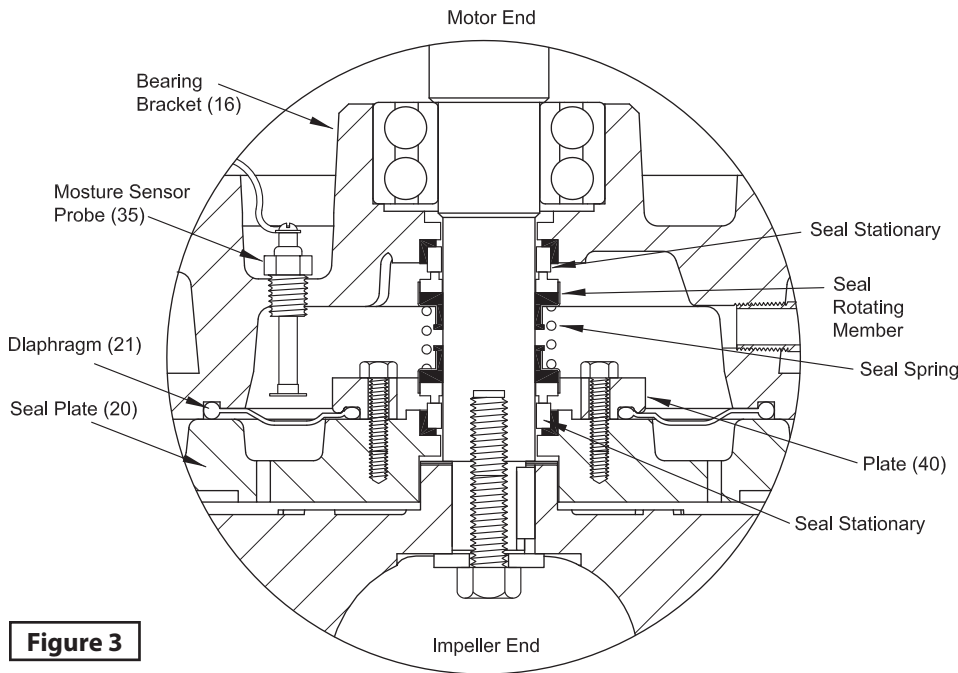

Figure 3
Seal/Diaphragm - (See Figure 3) Clean and oil seal cavities in bearing bracket (16) and seal Plate (20). Lightly oil (**Do not use grease**) outer surface of inboard and outboard stationary members of seal (19). Press inboard stationary member firmly into bearing bracket (16) and outboard stationary into seal plate (20), using a seal pusher tool. Nothing but the seal pusher tool is to come in contact with seal face.